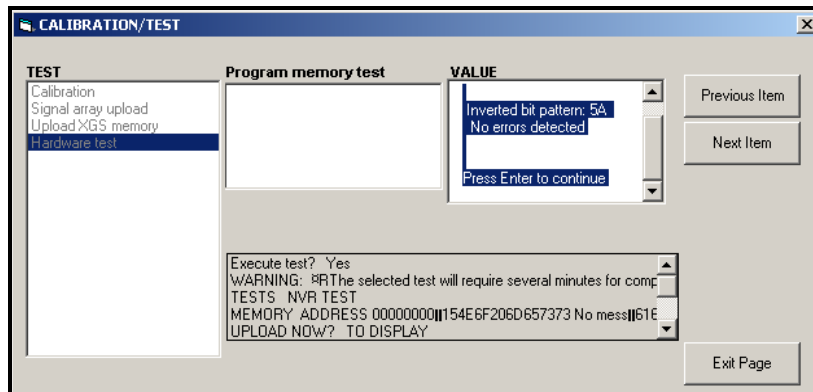

Figure 15: Completion of the NVR Test
4. If the NVR passes the test, the screen appears similar to Figure 15 on page 53. Click [Exit Page] to return to the *Hardware Test* option, and [Exit Page] again to return to the main *Calibration/Test* menu.